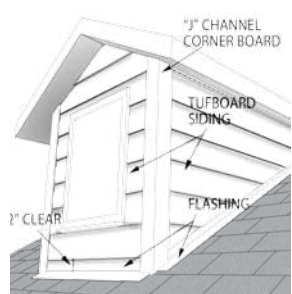

Fig. 19
- At the juncture of the roof and vertical surfaces, flashing and counterflashing shall be provided per the roofing manufacturer's instruction (see Fig. 19).